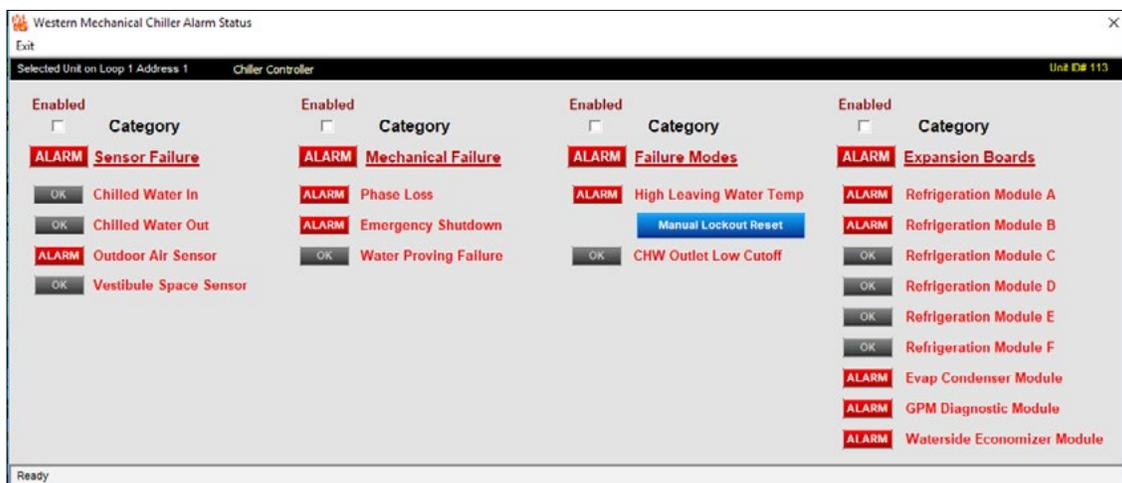

Figure 32: Unit Alarm Status Screen
*Click* the **<ALARM>** button when bright red or the **<No Alarms>** button when dull red. The *Chiller Alarm Status Screen* will appear. See **Figure 32**.